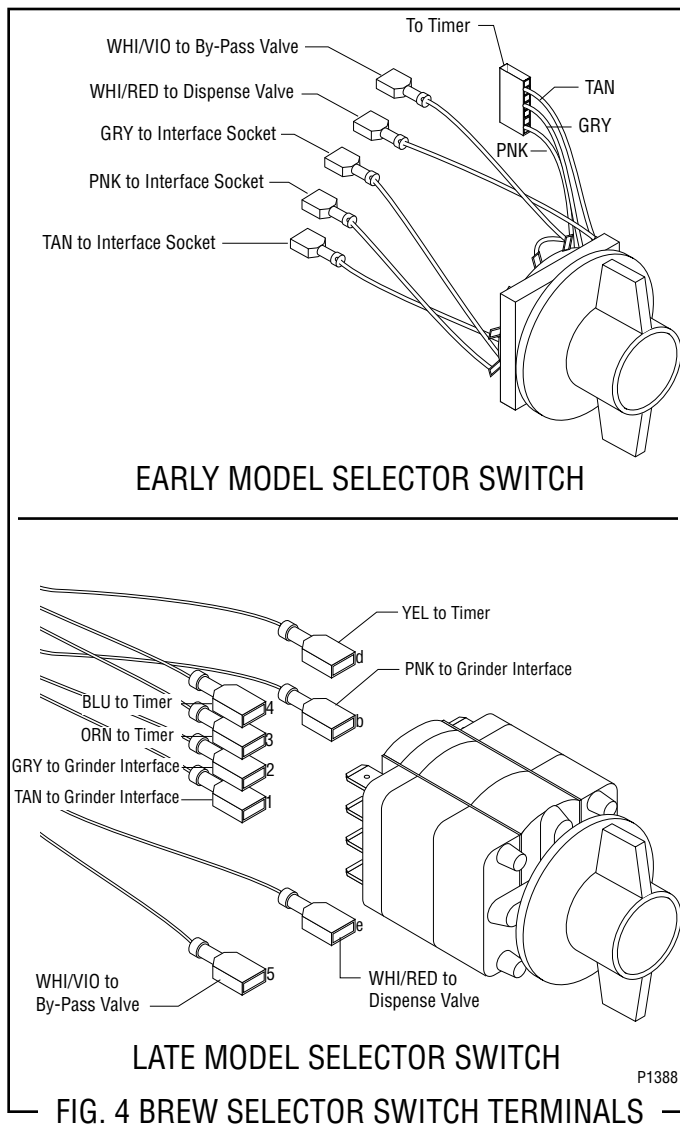

FIG. 4 BREW SELECTOR SWITCH TERMINALS
9. Refer to Fig. 4 when reconnecting the wires.
7. Refer to Fig. 4 when reconnecting the wires.